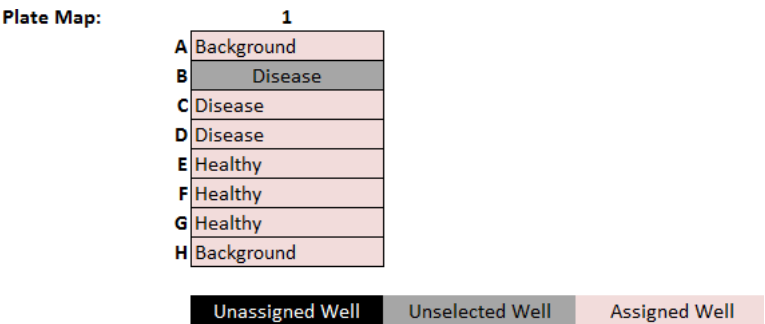

Figure 141. Measures sheet
**Excluded assay wells in Report Generator** Data from assay wells (or entire groups) that are turned off in Wave Pro will not be exported / included in parameter calculations in the Report Generators. The Measures Sheet displays the group names, Plate Map layout, and any assay wells that have been excluded in the group calculations in the Report Generator. (See Figure 141.)